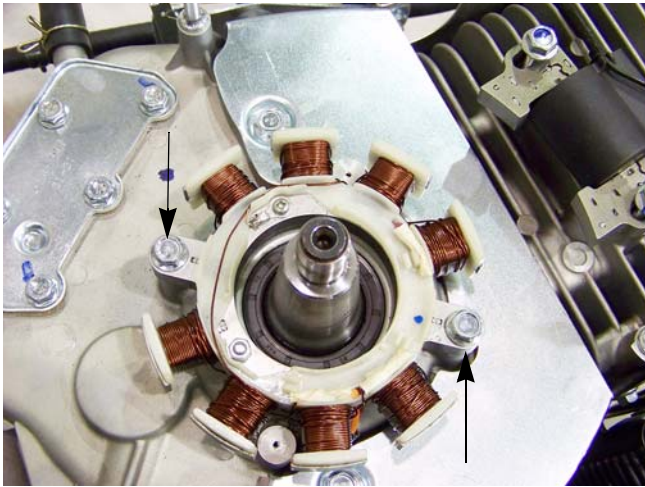

Figure 6.41
4. Remove the two screws, indicated by the arrows in Figure 6.41., that secure the stator with a 10mm wrench.